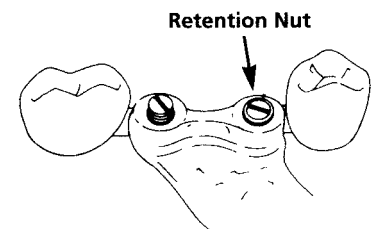

Fig. 20
10. Insert the male through the hole in the cast framework so it fully seats in the female eyelet. Secure the male to the cast frame with the retention nut. The nut may be connected (not the male itself) to the cast frame by spot welding or soldering. Another option is to retain the nut in position with self-curing resin. The grooves on the nut facilitate retention in resin (Fig. 20).